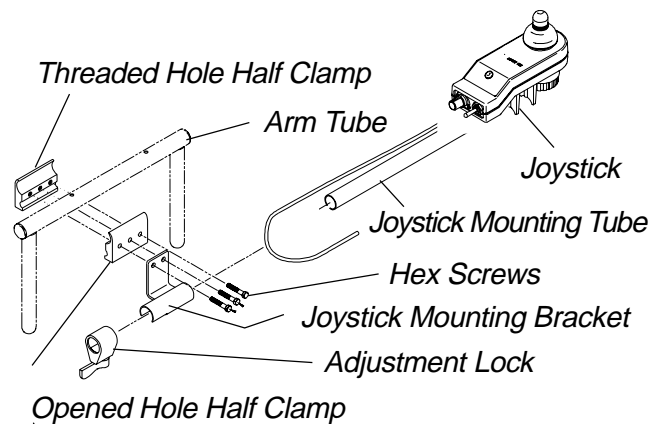

FIGURE 2 - REPOSITIONING MKIV JOYSTICK - INTEGRATED SLING SEAT MODELS
**REPOSITIONING MKIV JOYSTICK****Integrated Sling Seat Models (FIGURE 2)**
3. Remove the three (3) hex screws that secure joystick mounting bracket (**bracket**), the threaded hole half clamp and the opened hole half clamp to the arm tube.
5. While holding the two (2) half clamps, install the front hex screw into the two (2) half clamps. Securely tighten.
6. Line up mounting holes of the joystick mounting bracket with the mounting holes in the two (2) half clamps.
7. Secure the joystick mounting bracket to the two (2) half clamps with the remaining two (2) hex screws.